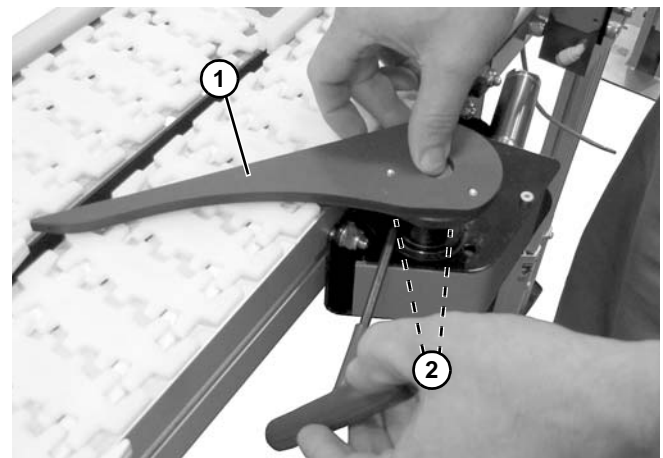

**Figure 35**
1. Connect Port 4 (Figure 34) of the 3 port, 2 way solenoid to the cylinders back port (Figure 35, item 1). Dorner fittings accept 1/4" outside diameter tubing standard.
2. Connect Port 2 (Figure 34) of the 3 port, 2 way solenoid to the cylinders front port (Figure 35, item 2). Dorner fittings accept 1/4" outside diameter tubing standard.